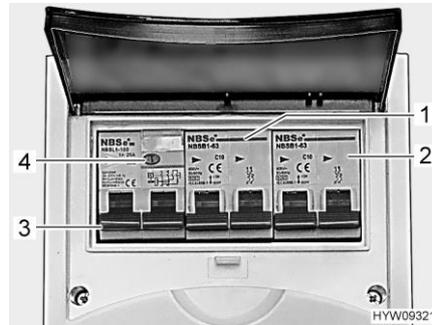

Fig. 74 Safety cutout and FI-switch (230 V fuse box)
A fault current protection switch (FI-switch) (Fig. 74,3) in the fuse box protects the complete vehicle from fault current (30 mA).
The downstream safety cut-out (10 A) (Fig. 74,1) secures the 230 V sockets, the transformer/rectifier, the auxiliary charging unit and the refrigerator.
For vehicles with optional equipment, e.g. roof air conditioning unit, the device is protected by an additional safety cut-out (16 A) (Fig. 74,2).
- When the vehicle is connected to the 230 V power supply, press the test button (Fig. 74,4). The fault current protection switch (FI-switch) must be activated.